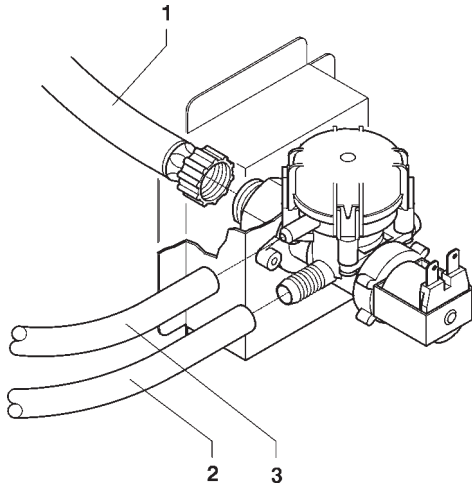

Fig. 11
Use a hose capable of withstanding the water mains pressure and suitable for use with foodstuff (min. inside diameter of 6 mm) to connect the water supply to the fitting (3/4" gas) of the water inlet solenoid valve (see Fig. 11).
The water inlet solenoid valve (see Fig. 11) is equipped with an overflow device which mechanically stops the water inlet if there is a malfunction in the solenoid valve or in the boiler water level control device.
- loosen the nut which secures the solenoid valve supply hose to relieve the water mains residual pressure and then tighten again (see Fig. 11);